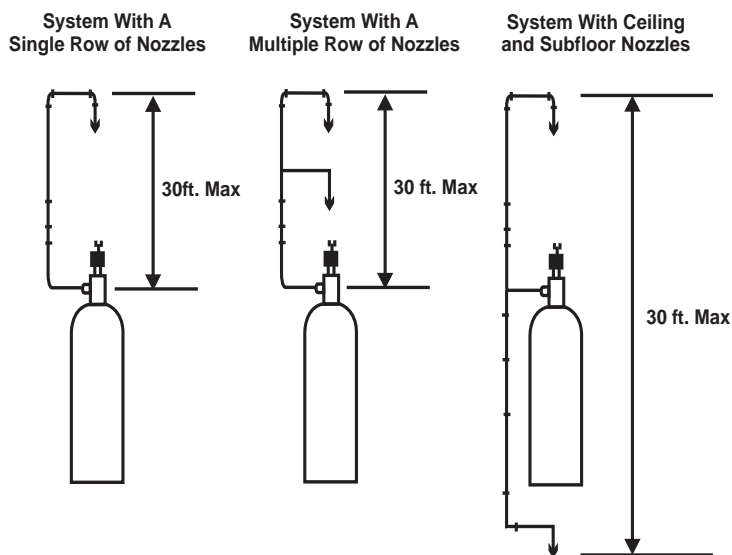

Figure 4-4. Nozzle Limitations
**Note:** If you have a system design that violates these limits, the factory must be consulted to determine what course of action should be taken. See Figure 4-4 for further clarification.